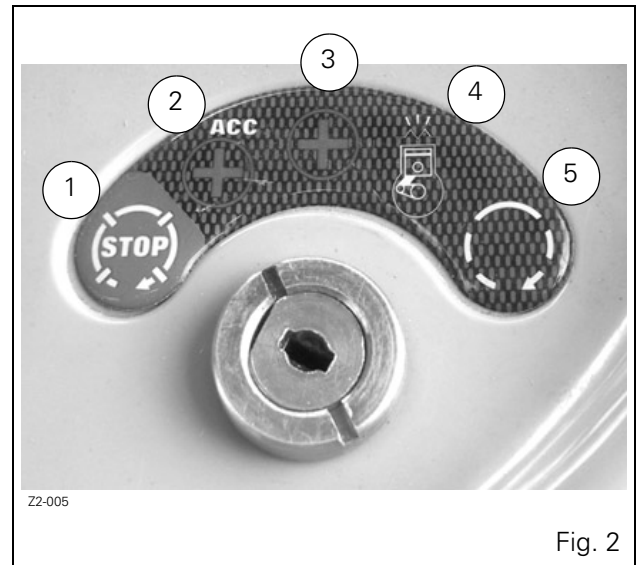

Fig. 2
1. Start switch (see detail in Fig. 2).